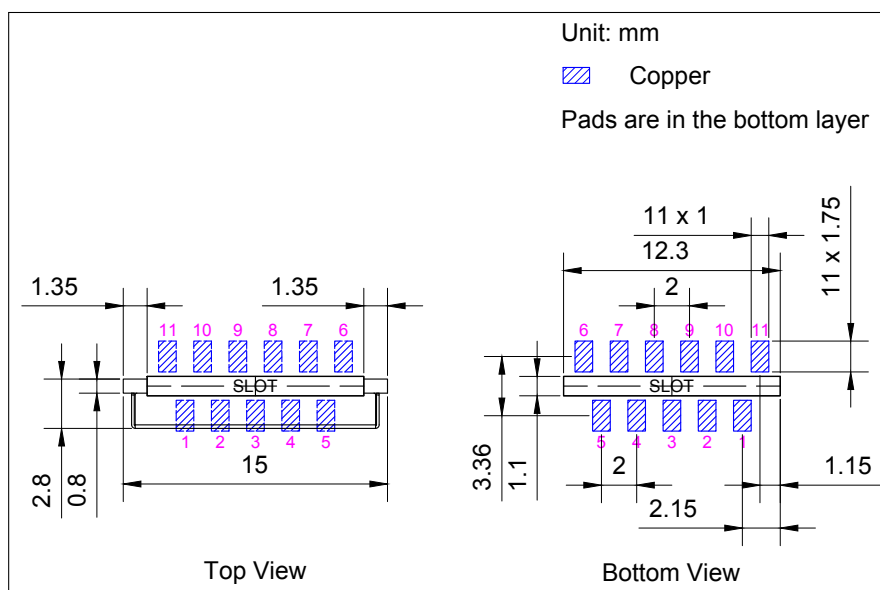

Figure 7: Recommended PCB Land Pattern
- Figure for the recommended PCB land pattern with all the dimensions needed for PCB design. See Figure 7 Recommended PCB Land Pattern.
- Source file of the recommended PCB land pattern to measure dimensions not covered in Figure 7. You can view the source files for ESP8684-WROOM-03 with Autodesk Viewer.